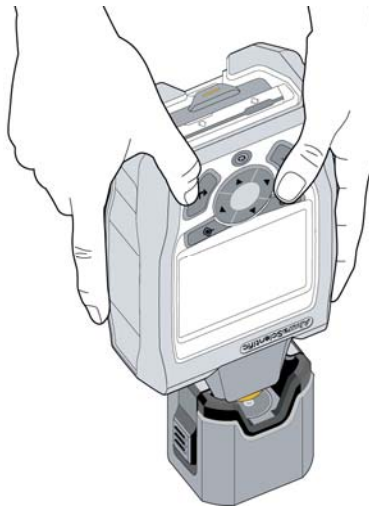

Figure 4. Inserting Unit into the Sample Crusher
5. Insert TruDefender into the sample crusher as shown in Figure 4: Hold unit vertically, and align the nose with the sample crusher. Press the unit straight into the sample crusher until both side latches have clicked into place.
5. Immediately place TruDefender FT into the sample crusher, as shown in Figure 4, above: Hold the unit vertically, and align the nose with the sample crusher. Position the unit straight into the sample crusher. It is not necessary to latch it into place.